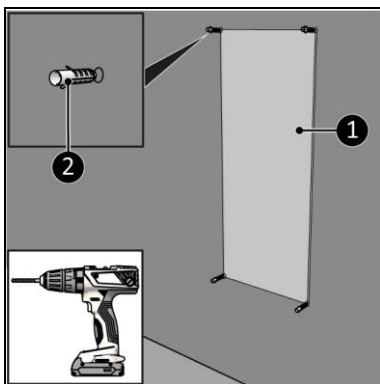

Figure 7
4. Place the included assembly drawing (Figure 7, pos. 1) against the wall and mark the four holes.
6. Place the plugs (Figure 7, pos. 2).